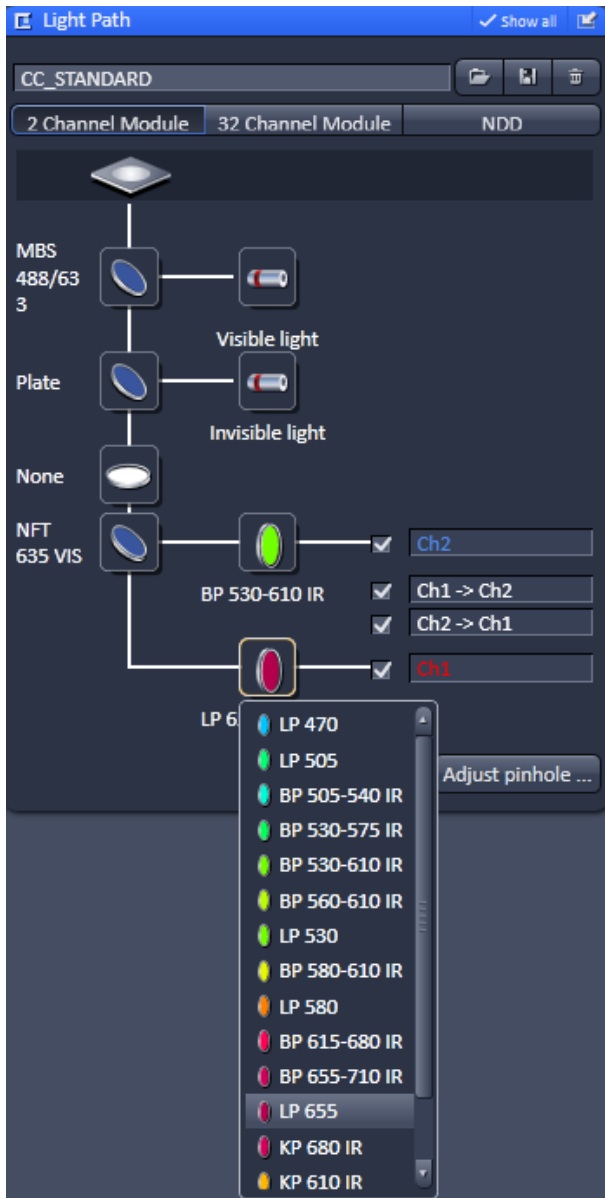

Fig. 235 Light Path panel with EF1 filter list
- Click on the EF2 or EF1 (Fig. 235) icon to open a list of available emission filters. All filters can be viewed by using the scroll tab.